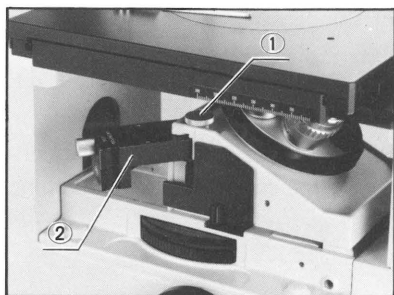

Fig. 5
- 1) Loosen the DIC attachment clamping knob ① slightly and pull out the DIC attachment ②, but do not let it fall out. (Fig. 5)